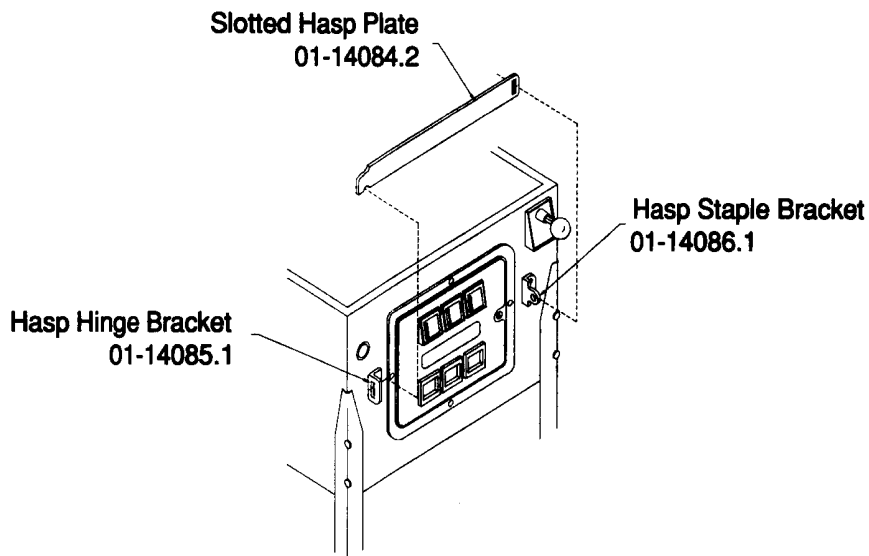

FIGURE 16
20. If a padlock is desired, install the security bar as shown below in Figure 16.